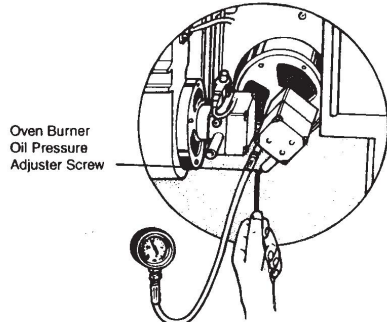

Fig. 9.12
4. Check that the boiler plate transport screws have been removed and that the plates are in their correct positions. (See section removal of transport screw and Fig. 9.12)
Remove the hotplate and boiler top plate. Remove retaining screws from boiler plates. Check that all plates have remained in their correct position and that no debris has accumulated on them during transport. Replace boiler top plate and hotplate ensuring that all seals are intact (See Fig. 9.12).